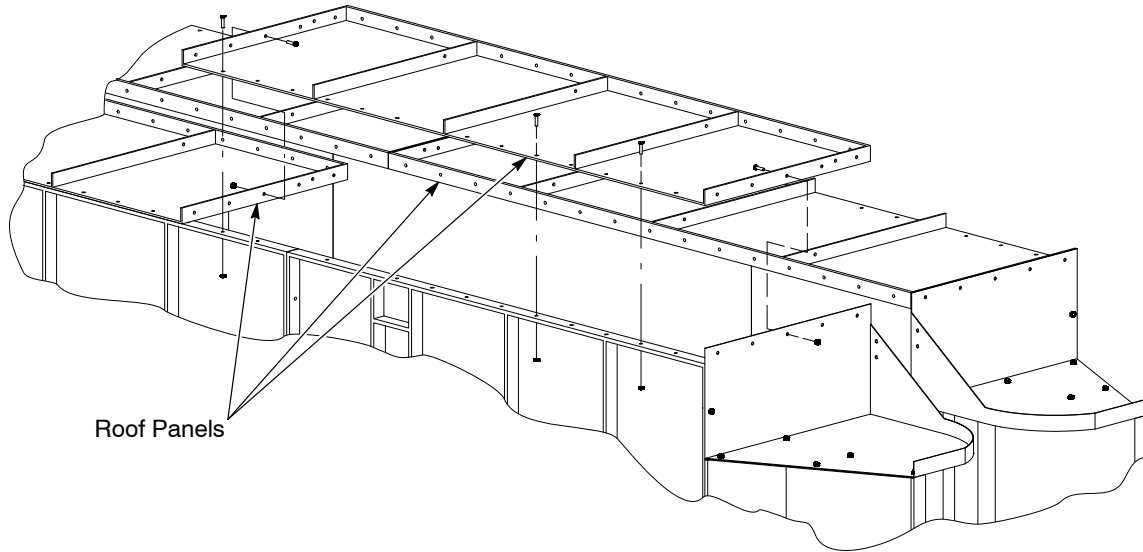

Figure 9 Roof Installation
18. See Figure 9, Detail A. Align the holes in the top vestibule panel with the holes in the side panels and end panels. Fasten the top panels to the side and end panels with 5/16–18 hex head bolts and hex nuts.
1. See Figure 9. Attach the roof panels to the top vestibule panels, side panels, and other roof panels with 5/16–18 hex head bolts and hex nuts.